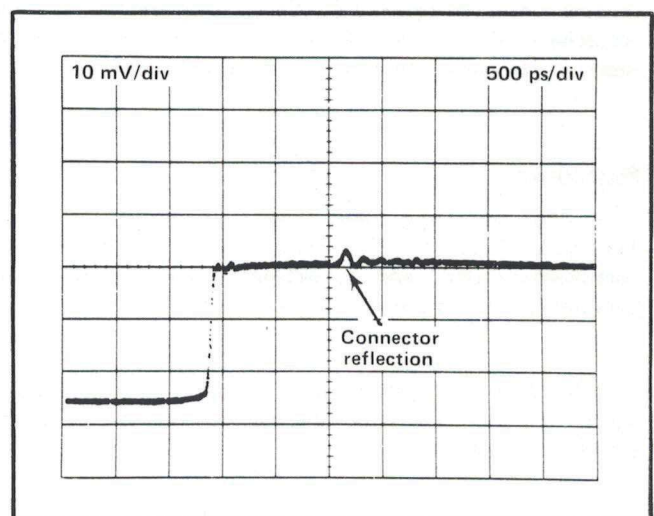

Fig. 2-4. Display with "Test Line" showing a reflection due to an incorrectly installed termination.
15. Terminate the end of the "Test Line" in 50  $\Omega$ . A precision termination firmly connected to mating connectors at the end of the "Test Line" will allow a minimum reflection at the termination point. Fig. 2-4 shows a reflection due to a loose connector.